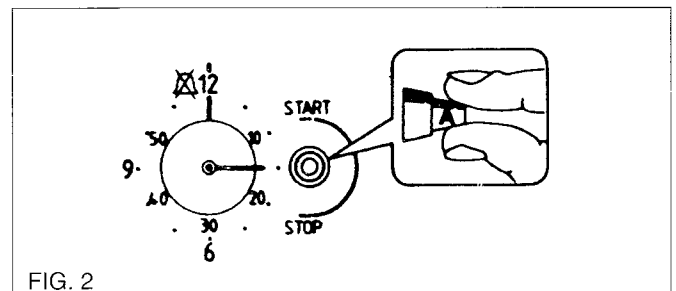

FIG. 2
Use the control knob (A). Without pushing it in, turn the knob in either direction. A period of up to 55 minutes can be timed using the minute minder. At the end of the set time a bell will ring. Fig.2.
Press the two buttons marked () and () while holding them down, press the increase control button (+) and, if necessary, the decrease control button (-) until the correct time on the 24 hour clock is reached, e.g. 10.00a.m. as Fig. 2.
The Auto Symbol will go out and the cooking symbol will light (). See Fig. 2.